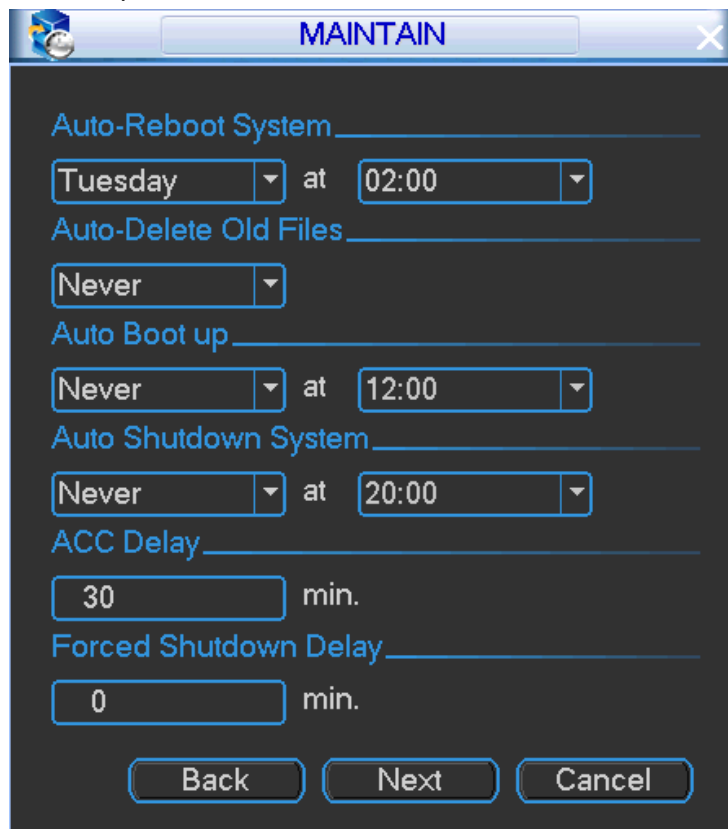

Figure 4-9
- Step 8 Click Next button, enter Maintain interface. See Figure 4-9.